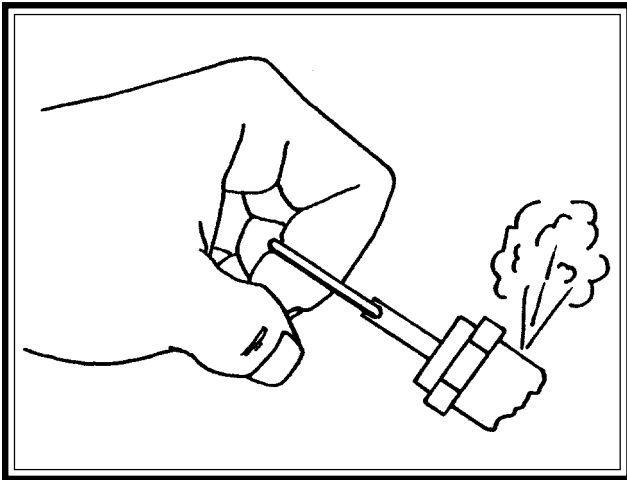

Fig. 3-4 Checking Pressure Relief Valves & Relieving System Pressure
- Step 2)** Tank(s) subjected to freezing temperatures may contain ice. Store the compressor in a heated area before attempting to drain moisture from the tank(s). Reduce the air pressure in the tank to 30 PSIG by pulling the pressure relief valve ring (refer to **Fig. 3-4, Checking Pressure Relief Valves & Relieving System Pressure**).